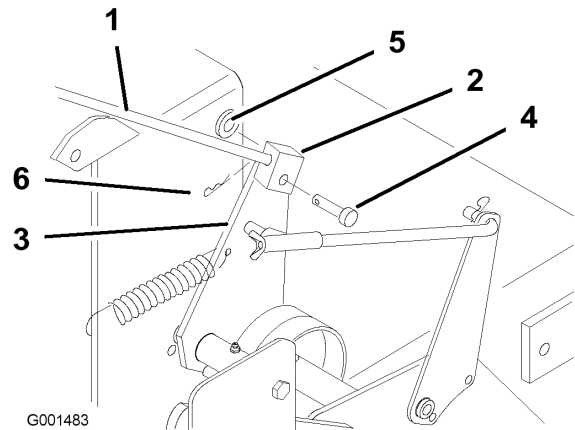

Figure 15
1. Remove hairpin cotter, washer and clevis pin securing control rod fitting to idler bracket (Figure 15).